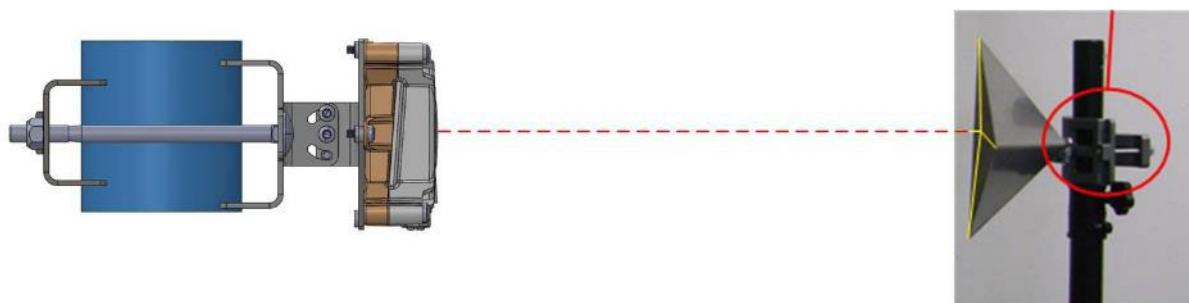

Figure 5.1: Mounting alignment of radar and reflector
For a primary radar distance measurement, typically a single radar unit and a recommended corner reflector are mounted facing each other (see Figure 5.1 and Figure 3.3).
- The radar and the corner reflector must be installed in a way that the center of the corner reflector is aligned with the center of the radar beam (see Figure 5.1).